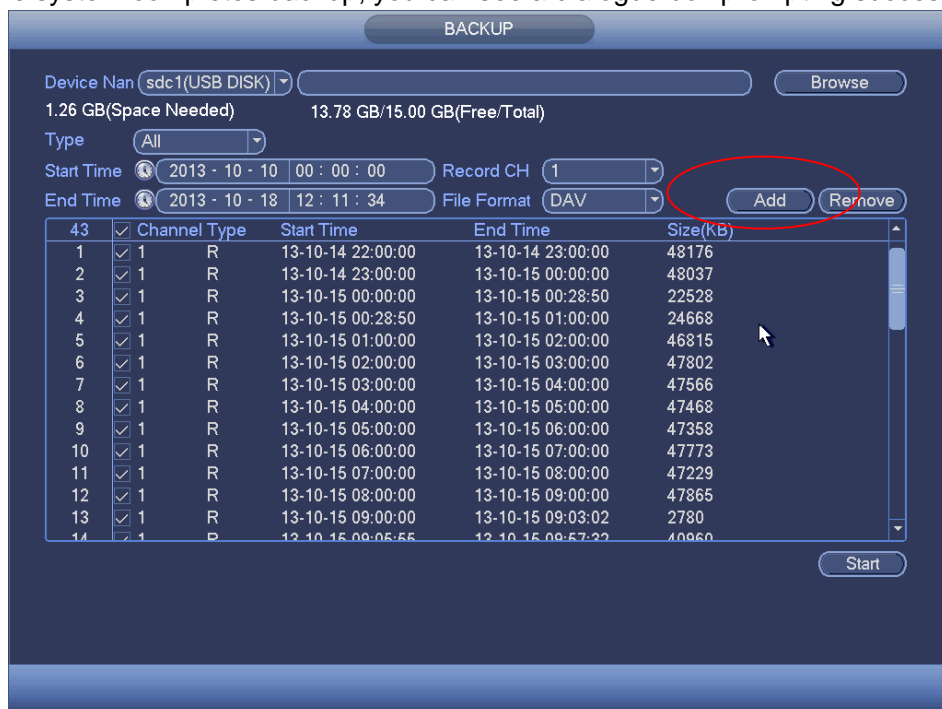

Figure 4-70
- d) Click add button, system begins search. All matched files are listed below. System automatically calculates the capacity needed and remained. See Figure 4-70.